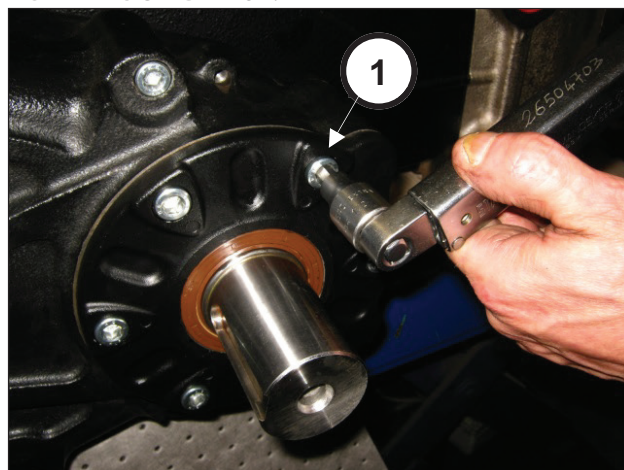

Fig. 88
Tighten the 6 M10x25 screws (pos. ①, Fig. 88). Calibrate the screws with a torque wrench as indicated in chapter 3 SCREW TIGHTENING CALIBRATION.